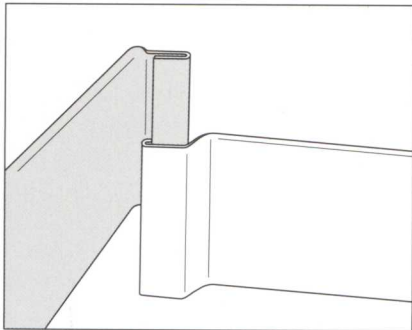

FIGURE F6
- 8.5.3 With the smooth side facing the inside, slot the edge of the long piece together with the edge of a short piece ensuring the folded edge is at the top. Repeat on the other end of long section. See Figure F6 alongside.